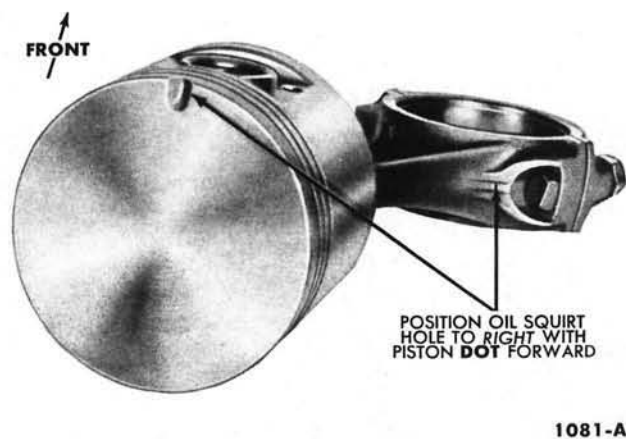

FIG. 41—Correct Position of Oil Squirt Hole
1. Lubricate all parts with light engine oil. Position the connecting rod in the piston and push the pin into place. Assemble the piston and connecting rod with the oil squirt hole in the rod positioned as shown in Fig. 41.